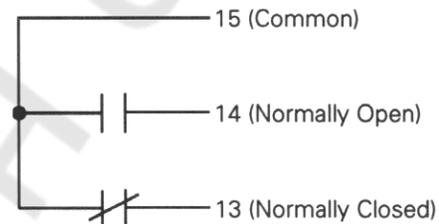

Figure 2. Bell Alarm–Alarm Only connections on the right terminal block. The contacts are shown in the reset state.
The Bell Alarm–Alarm Only provides normally open (NO) and normally closed (NC) outputs available at the terminal block on the right side of the breaker, as illustrated in Figure 2. The outputs change state whenever a breaker trip occurs. This trip can be caused by an overcurrent condition detected by the Trip Unit or can be generated by the Shunt Trip or Undervoltage Release, if installed and if the appropriate DIP switches have been set on the back of the Trip Unit.
6. Connect the control wiring for the Bell Alarm-Alarm Only at the right terminal block, as illustrated in Figure 2.